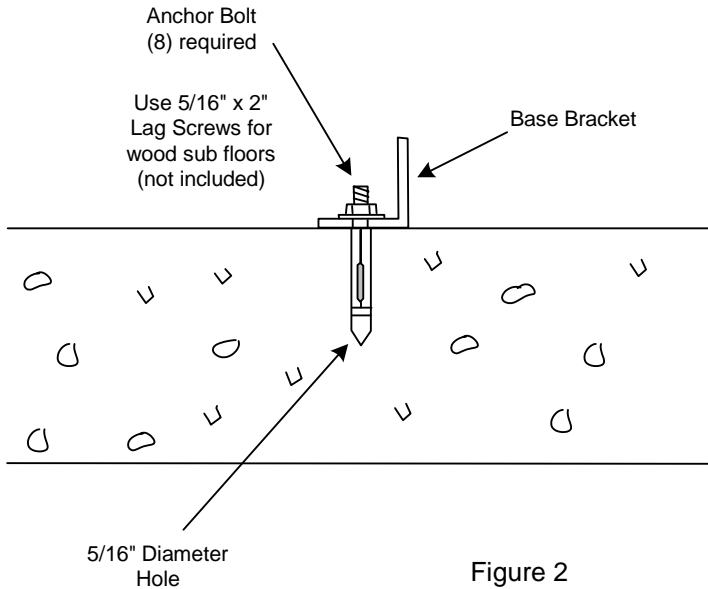

Figure 2
7. Remove frame and cut a flap in carpet where Base Bracket will come in contact with floor. Drill 5/16" holes in concrete 1 3/4" deep and install anchors with metal sleeve so that sleeve is flush with the floor. Use hammer to insert anchor into floor Figure 2 a. If installing on wood sub-floors, drill pilot hole for 5/16" x 1 1/2" Lag Screws and washers (not included).
Figure 2 a